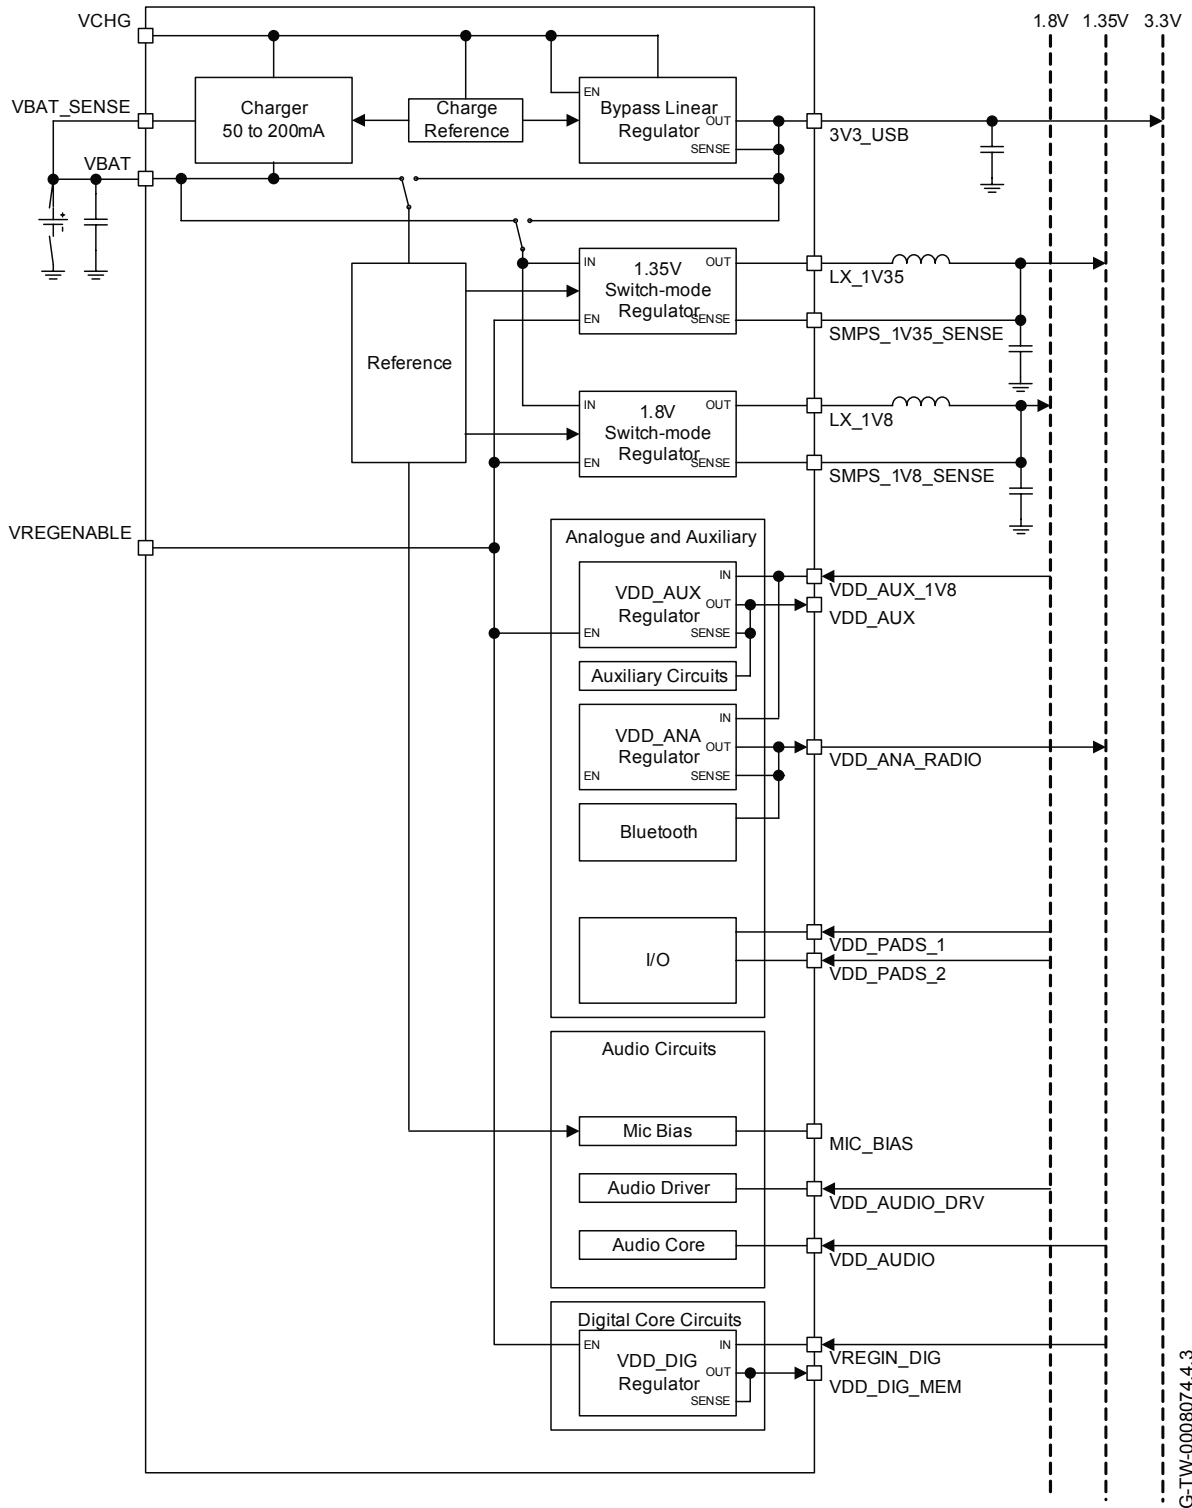

Figure 10.1: 1.80V and 1.35V Dual-supply Switch-mode System Configuration
- A 1.80V and 1.35V dual-supply rail system using the 1.80V and 1.35V switch-mode regulators, see Figure 10.1. This is the default power control and regulation configuration for the CSR8615 QFN.